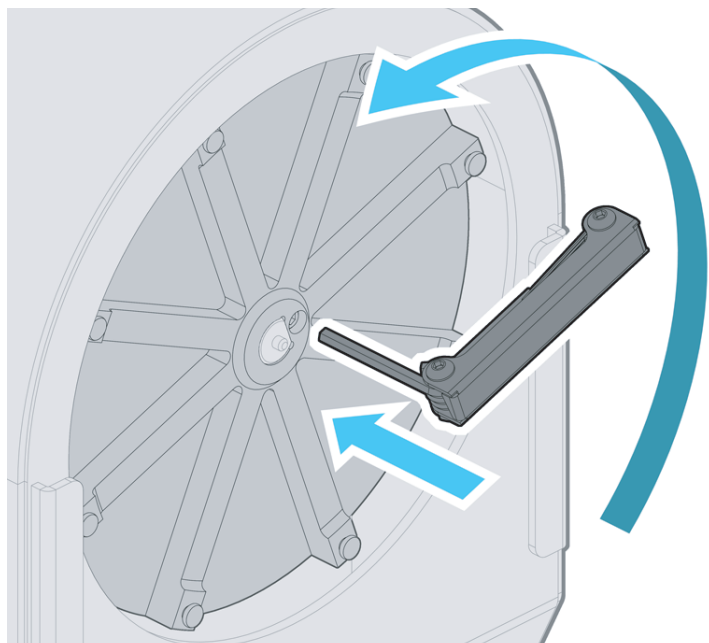

Figure 17a: Remove the cap-screw that retains Blade Holder.
- A. Using the supplied Hex Key Tool Set, remove the cap-head screw that secures the Blade Holder to the Shredder Hub. See **Figure 17a**.